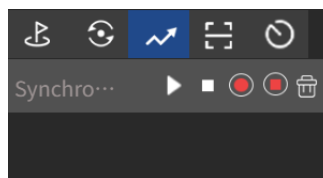

Figure 2-14 Patterns Settings Interface
1. In the PTZ control panel, click  to enter the pattern settings interface. As shown in Figure 2-14.